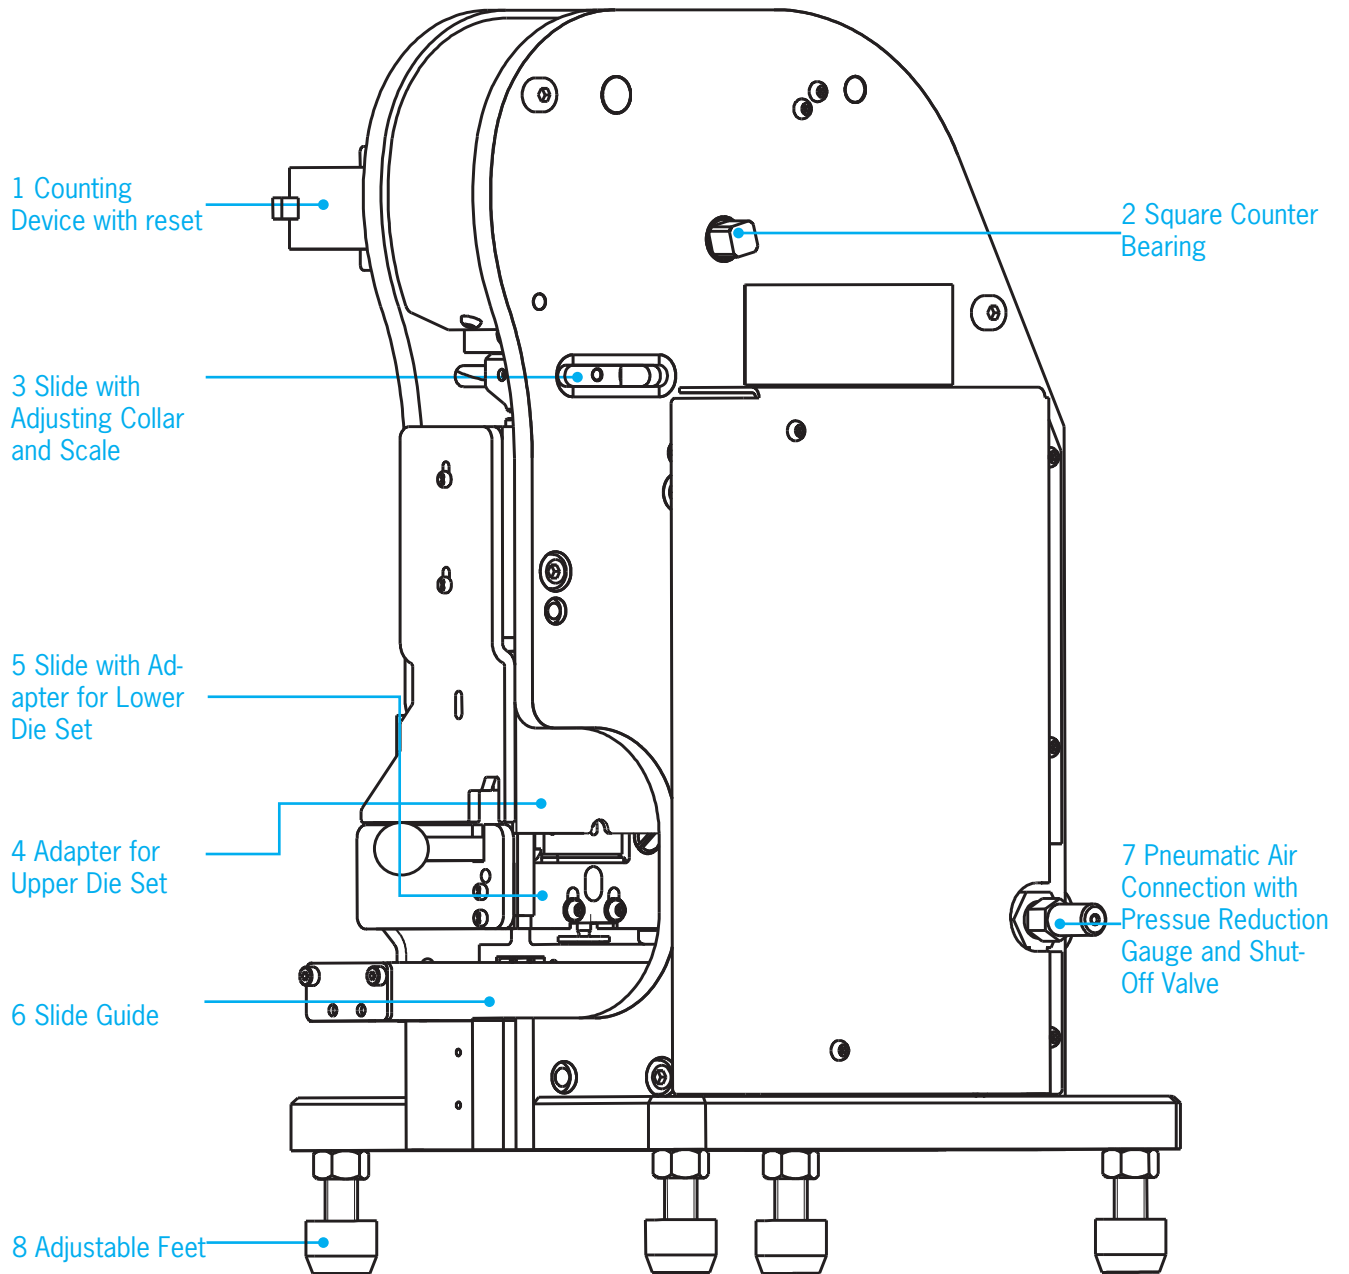
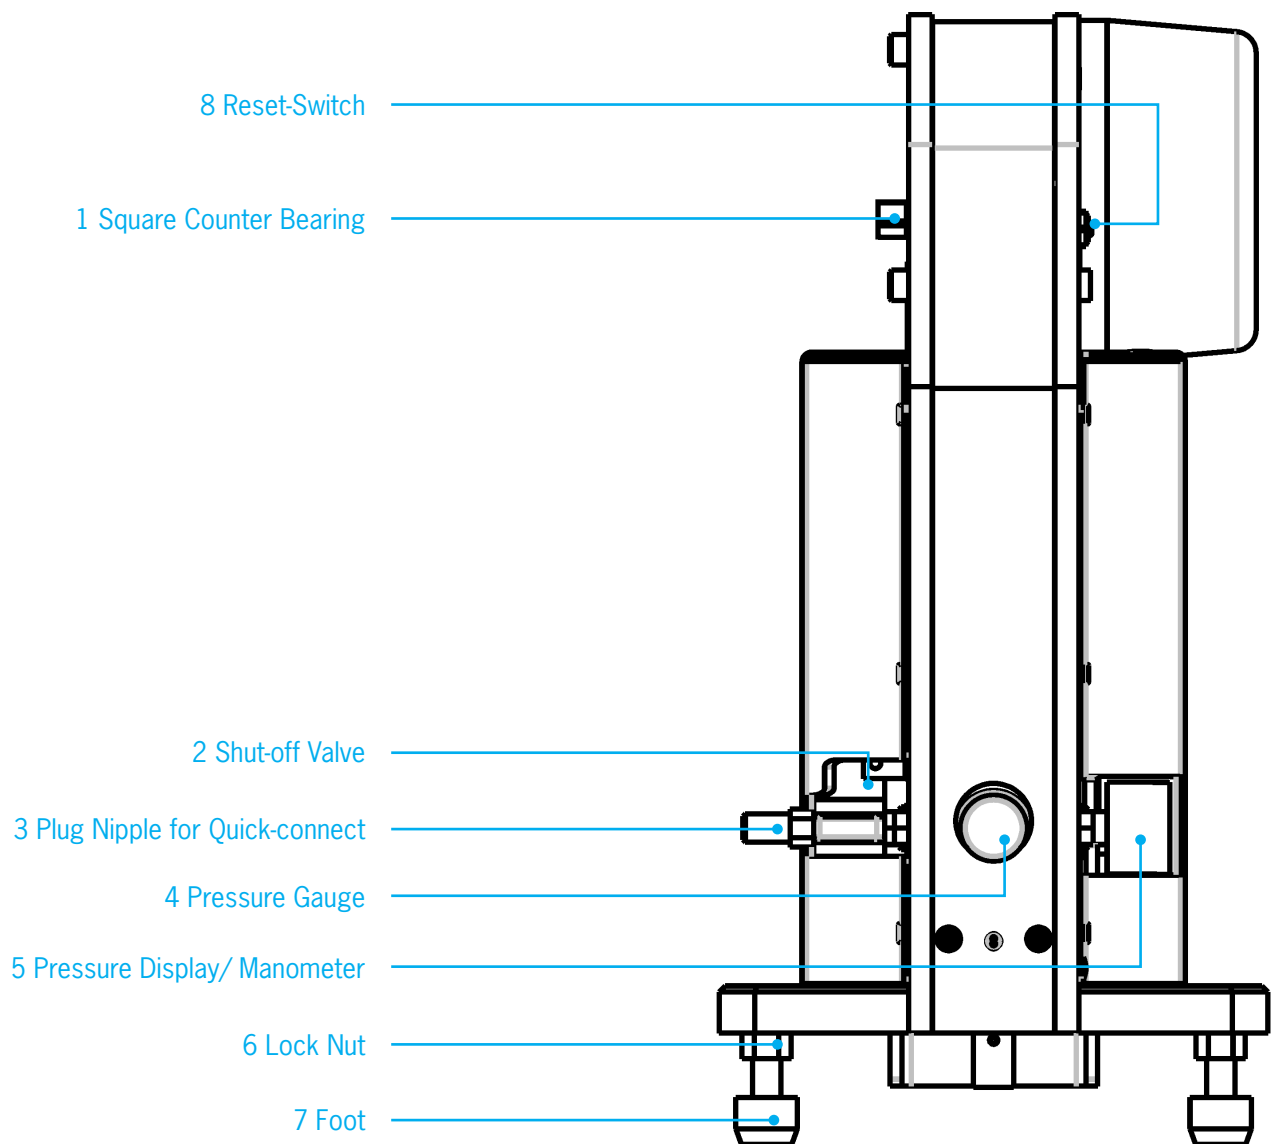
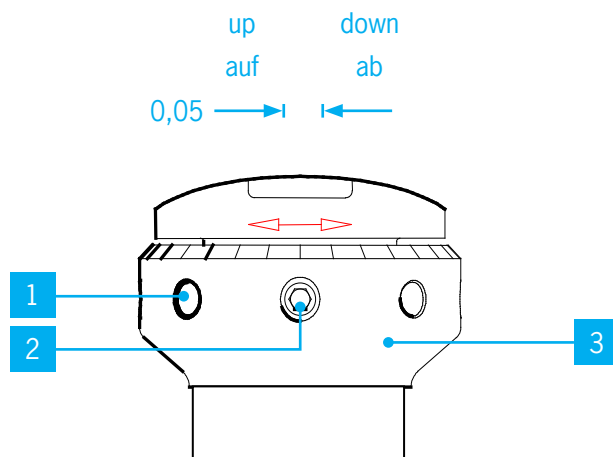

Fig. 1
Fig. 3
Fig. 5
1. Place the machine at the final work location. The adjustable feet Fig. 3/7 are used to place the machine firmly onto the work surface and the setting is secured in place by lock nuts Fig. 3/6 . The secure setup of the machine is very important!
2. Connect the supply hose for the compressed air. The built-in pressure gauge Fig. 3/4 is a factory setting and will limit the amount of air ressure to max. 6 bar. Please ensure that the air supply hose is properly connected. In order to operate the machine safely, the air pressure must be between 5 - 6 bar.
- Open the shut-off valve Fig.3/2
- Pull the slide Fig. 1/5 out of the front of the machine
- Close the clamp lever Fig. 2a/1. Move slide Fig. 1/5 into the crimping machine up to the limit stop, the working stroke is hereby triggered
- after the crimp process is completed, pull the slide Fig. 1/5 out of the machine and open the clamp lever Fig. 2a/1
- Interrupt air pressure with shut-off valve Fig. 3/2
- Release the remaining air by using the RESET switch Fig. 3/8
- Pull the slide Fig. 1/5 out of the crimping machine
- Use a wrench SW 12 and place it onto the square counter bearing Fig. 1/2 turn till the crimping dies are closed (without air pressure)
- Keep RESET button Fig. 3/8 compressed everytime the wrench is used on the counter bearing
- Rotate the counter bearing Fig. 1/2 until the upper die reaches the top
- Move the slide Fig. 1/5 into the machine until the stop
- Turn the wrench on the counter bearing Fig. 1/2 with an SW 12 wrench to move the upper die set down to the lower die set until they set on top of one another tightly (keep the RESET button Fig. 3/8 compressed during this process)
- Turn the wrench on the counter bearing Fig. 1/2 until the die set opens up and the slide Fig. 1/5 can be pulled out of the machine; now remove the wrench
- Move the upper and lower die sets apart by rotating the square end Fig. 1/2 with an SW 12 wrench (the RESET button Fig. 3/8 should remain compressed throughout this process) until the scale and setting information are visible
- Loosen the tensioning screw Fig. 5/2 with an SW 3 mm Allen wrench
- Choose the desired dimensional alignment by using the adjusting ring Fig. 5/3, use the extra holes provided Fig. 5/5 to select the desired setting
- Upon completion of the alignment, secure the adjusting ring Fig. 5/3 by tightening the fastening screw (an additional fastening screw is located at the 180° position). Only one fastening screw needs to be tightened for secure clamping, especially the fastening screw that can be reached by the operator the easiest.); afterwards open the shut-off valve Fig. 3/2
- Pull the slide Fig. 1/5 out of the machine
- Pull the slide out of the machine Fig. 1/5